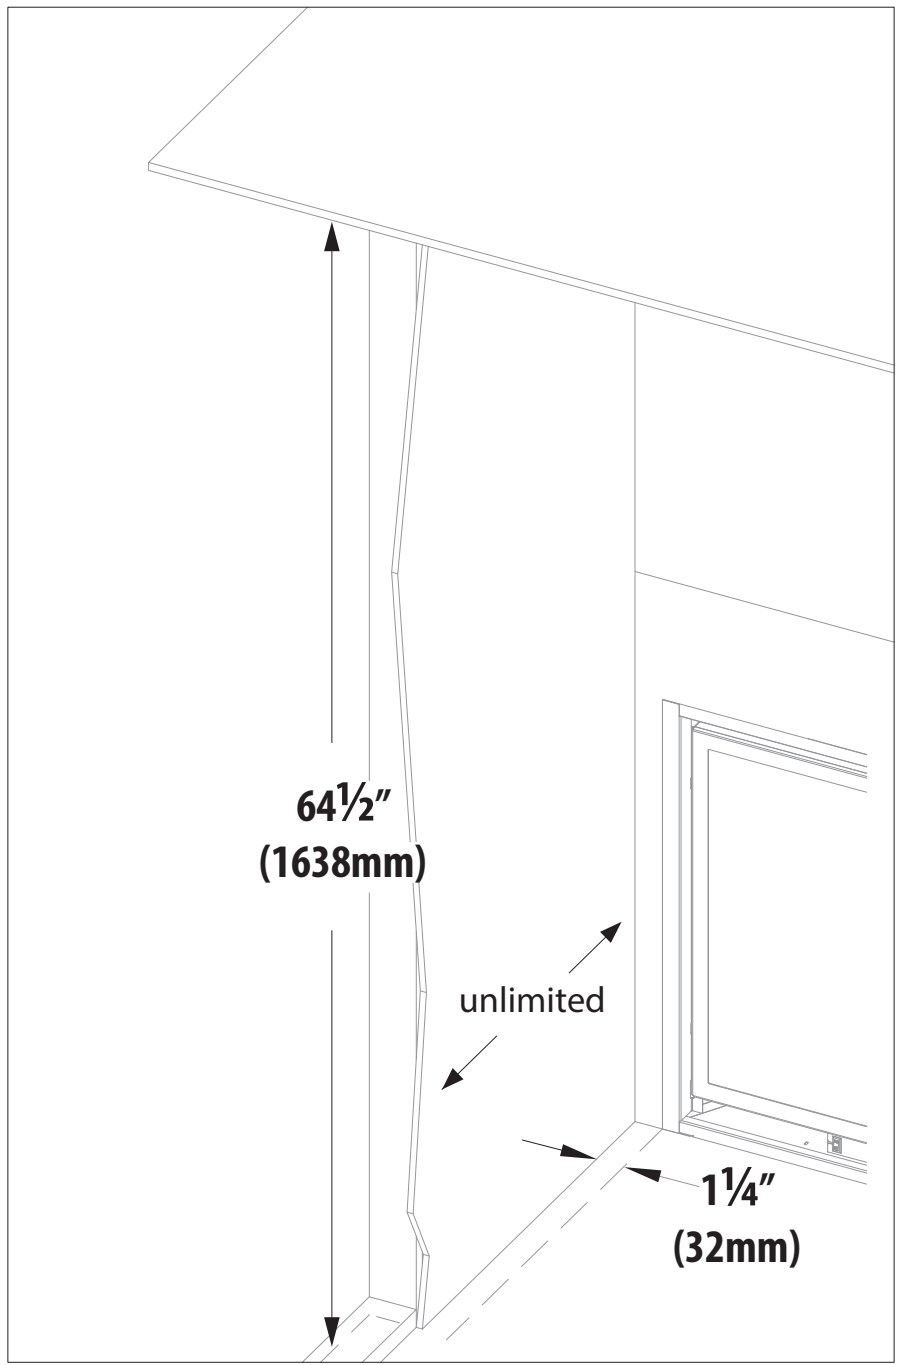

Figure 4.3, Sidewall Clearance
- The adjacent sidewall minimum clearance is 1-1/4" (32mm) from the appliance sides. See Figure 4.3 on page 25.